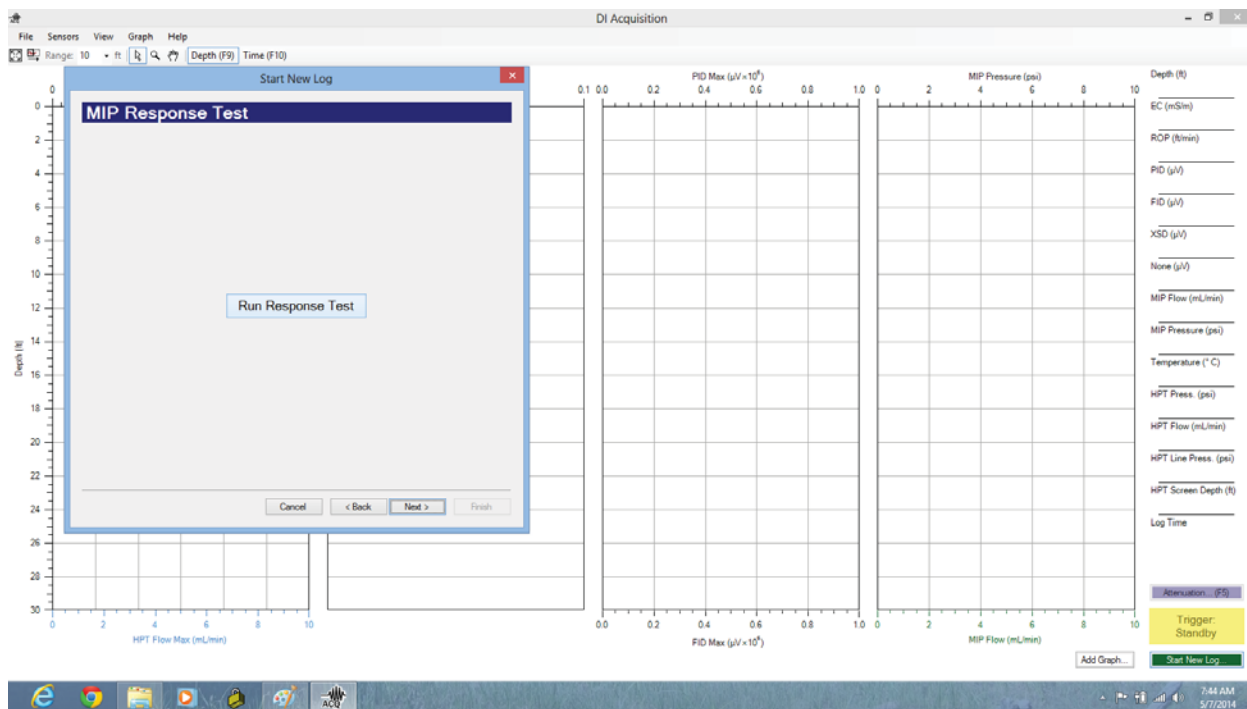

Figure 5.2: DI Acquisition Response Test Screen
6. Start the response test by clicking on the "Run Response Test" button (Fig. 5.2) and immediately expose the MIP membrane to the test solution (Figures 5.4 or 5.5).